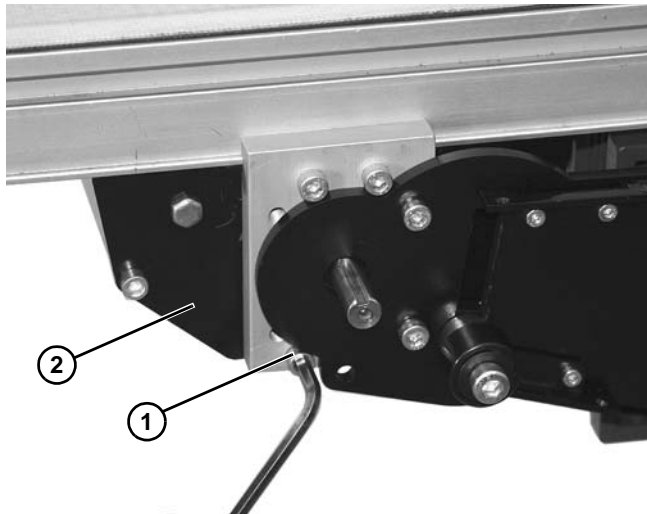

Figure 50
2. Remove two M6x25 socket head screws (Figure 50, item 1) from bottom of mid drive assembly (Figure 50, item 2).